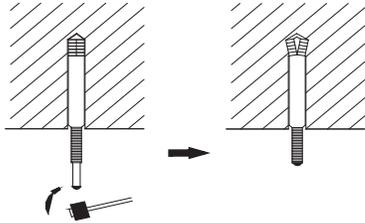

Fig. 46 – Expansion Bolt
- 1 Insert the M10 expansion bolt into the hole, and then knock the nail into the bolt. Refer to the Dimension – Indoor drawings (see Fig. 2 – 7) for the distance between the holes (see Fig. 46 for expansion bolt installation).